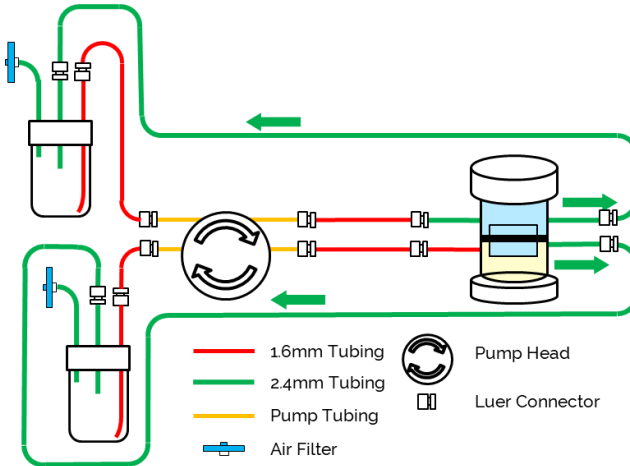

Figure 1. Example of the QV600 circuit with 1 liquid / liquid chamber.
3. Construct your Quasi Vivo® circuit, working around the circuit from the pump tubing in the direction of flow using the correct sized tubing, as indicated in Fig. 1.